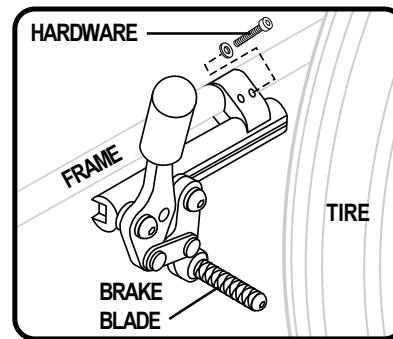

Figure 22. Park Brake Adjustment (Push-to-lock shown.)
3. Loosen the hardware that fastens the park brake to the frame. See figure 22.